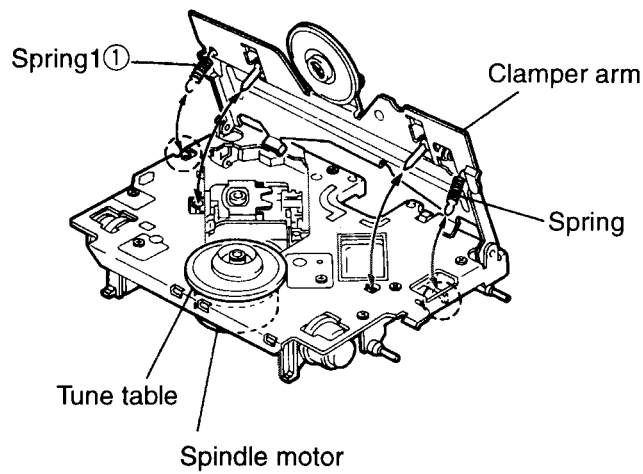

Fig. 22
1. After turning back the CD mechanism to initial position, remove the two sparrings ⑫ and i on both the right and left sides of the clamper arm (See Fig. 22 and Fig. 23).